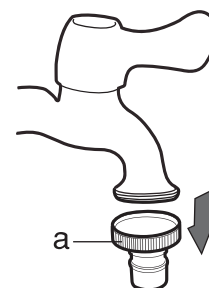

Figure 1
1. Unscrewing the part “a” from the water faucet. ( As figure 1)